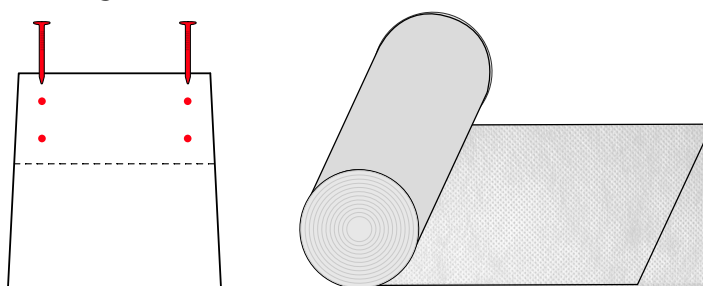
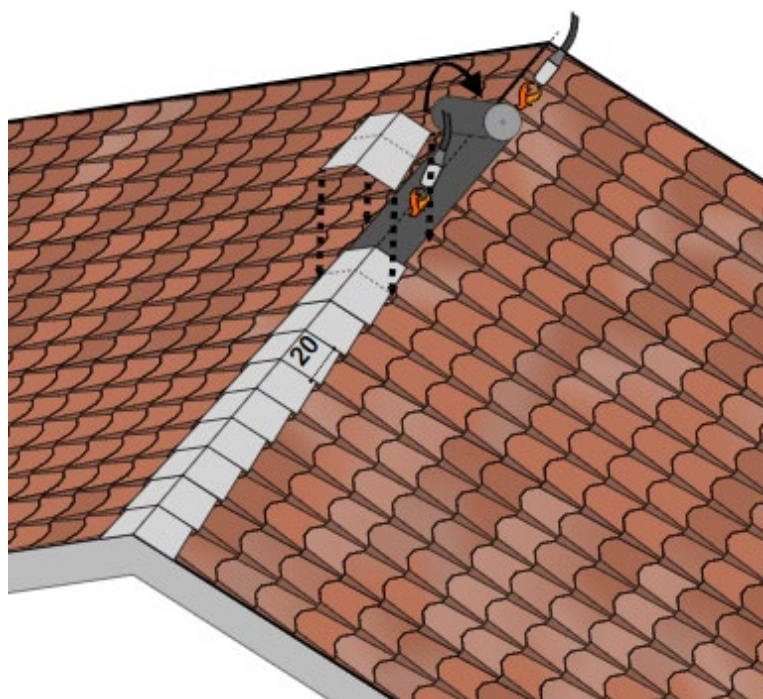

Fig. 14 - Colmo Coppo box contents
Fig. 26 – Ridge elements installation by torch
- For the execution of the ridge, take the Colmo Coppo box and remove the Top Roll Colmo SA and the ridge components, which are already cut and shaped, contained within it - Fig. 14.
- Place the Top Roll SA along the centre of the ridge line, removing the protective film from the underside of the roll that covers the butyl tape. This will waterproof the ridge itself where the Master Coppo shingles are cut. Remove the protective film from the back of the ridge components. Fix the ridge components onto the Top Roll Colmo SA with 4 nails, each at least 40mm in length, two nails for each side of the pitch. - Fig. 14.
- Repeat the installation procedure of the shingles row by row, until the full coverage of the pitch. Leave the last few centimeters of the bituminous membrane exposed, cutting the top part of the last row of shingles Fig. 26.
- For the execution of the ridge, take the Colmo Coppo box and remove the ridge components, which are already cut and shaped, contained within it – Fig. 14. Note that, in this case, the Top Roll Colmo SA roll will not be used. Instead, apply a strip of bituminous membrane Safety EPP with a torch on the ridge – Fig. 26. Install the prepared ridge components, fixing them to the underlying membrane with the torch flame, always heating the membrane and not the shingle component.
Proceed with the installation of the other ridge components in sequence, leaving an exposed section of 20 cm between one component and the next, as shown in Fig. 26.